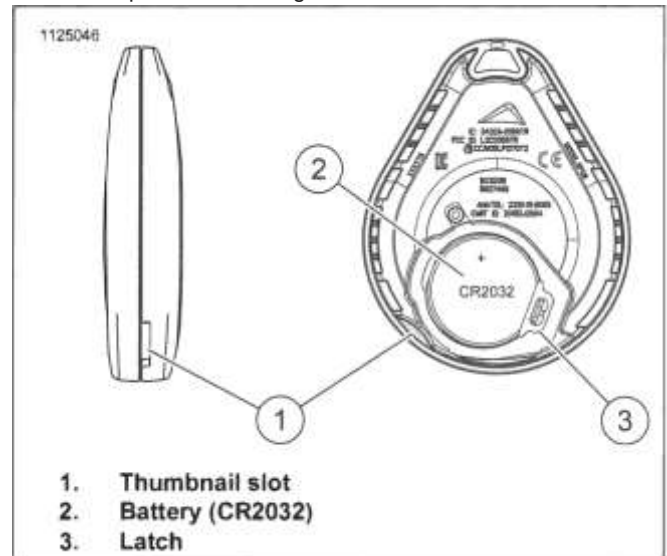

Figure 8-95. Replace Fob Battery
- a. See Figure 8-95. Place a thin blade in the thumbnail slot(1).